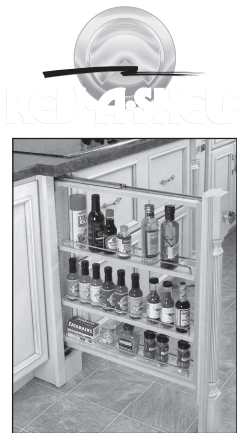

Fig 1
Step 1. Measure scribe rail thickness and length per your specific cabinetry. See Fig 1